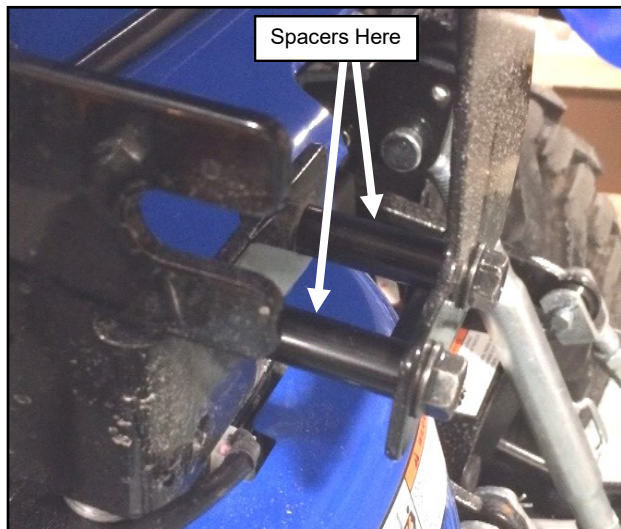

Fig. 20.1 (Relocated SMV Sign and Bracket)
- 20.1 Re-install SMV Sign and Bracket removed on step 1.3 using the supplied 40mm long spacers (ref.: 1.57" long) per figure 20.1.